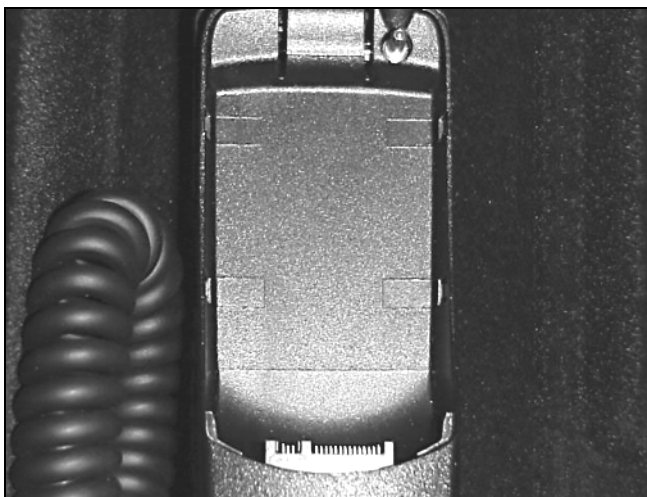

Figure 16
15. Remove the battery insert plate when using the extra capacity battery (1100 mAh) with the telephone (Figure 16).
**Note:** No battery insert plate is installed as in Figure 16.